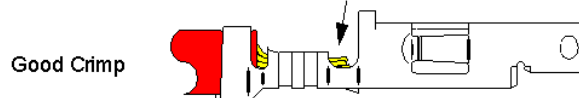

FIG. 13
5.2.5 Loose Wire Strands (fig.13)